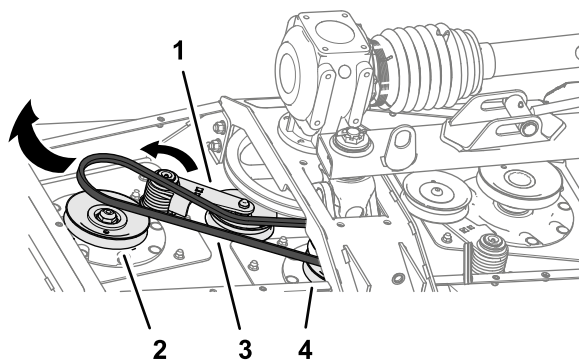

Figure 66
3. Use a breaker bar or similar tool to rotate the belt tensioner for the short belt counterclockwise and slip the belt off the tensioner pulley (Figure 66).